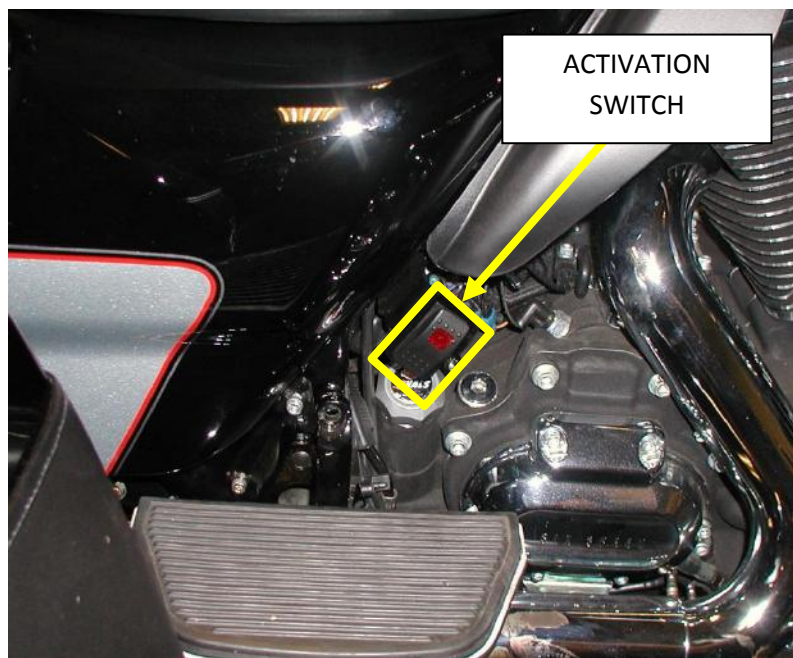

Figure 7: Activation Switch Location. View of Right Side of Bike
3. Turn the activation switch on and look for the red indicator light on the switch to illuminate. See switch location in Figure 7. NOTE: With the activation switch on and the neutral light on, the function of your horn button and start button has been changed to operate the reverse.